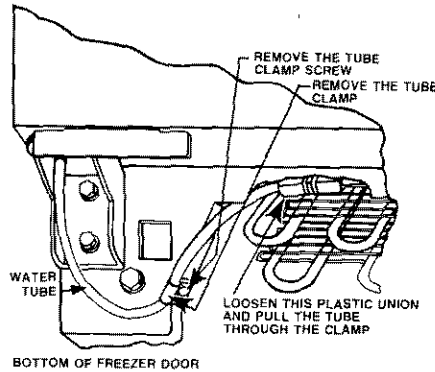

FIGURE 14
5. First remove the toe grille then disconnect freezer door bottom hinge water line by loosening the 1/4" O.D. plastic tube union nut. See Figure 14.